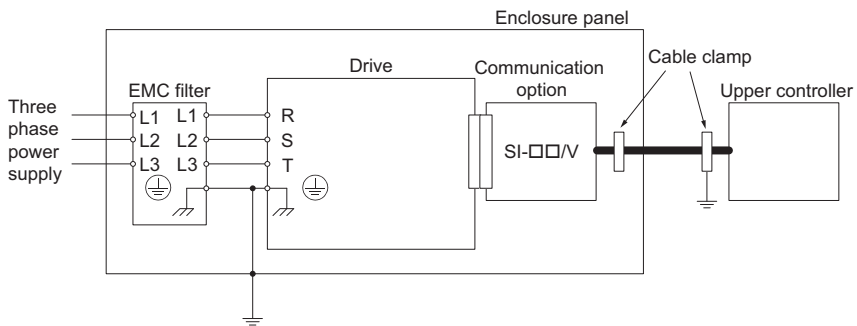

Figure 17 EMC Filter and Option Installation for CE Compliance
2. Keep wiring as short as possible. Ground the shield according to Figure 17.